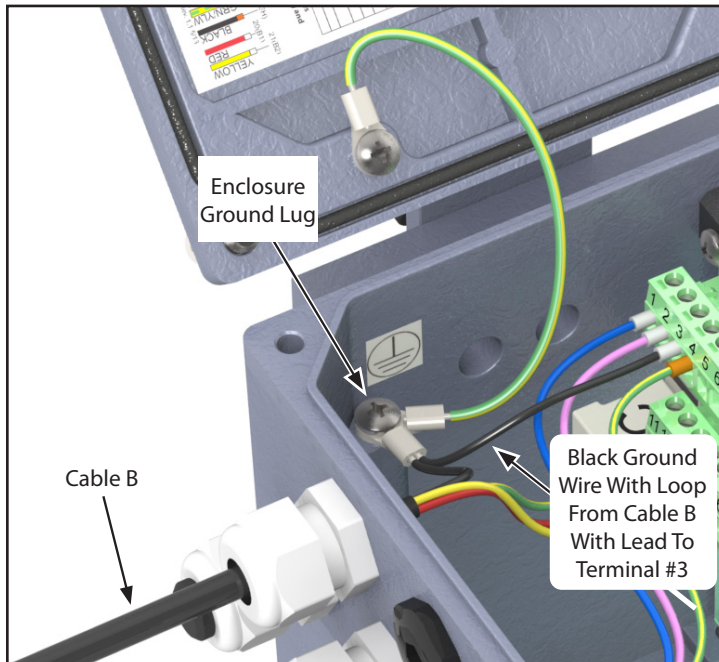

Figure 14. Converter grounding with cable lug for Ultra Mag 2" & 3"
***IMPORTANT:** See Section 5.6.2, "Converter Grounding For Ultra Mag 2" & 3'", Figure 14 for instructions on attaching the chassis ground wire to the converter ground lug.
On converters attached to the Ultra Mag body style 1 flow meters, the sensor cable has a ground wire fitted with a loop and a terminal extension. Attach the wire to the enclosure's ground terminal lug as shown in Figure 14 via the wire end loop, then connect the wire extension to Terminal #3.